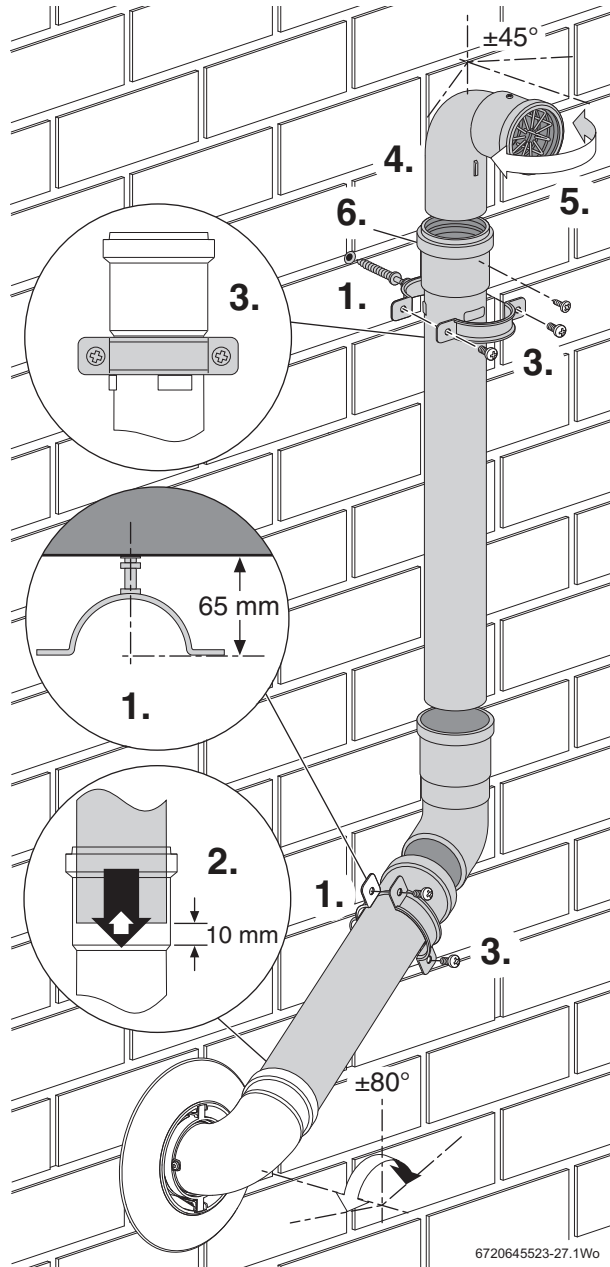

Fig. 45 Plume extensions
- Refer to figure 45 and assemble the plume extensions.